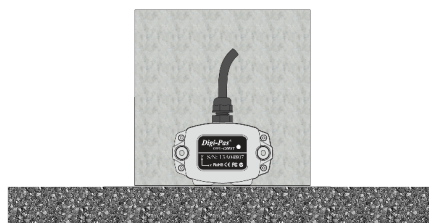

Figure 35. Compact Sensor Module Position of Calibration Step 1
3. Locate the sensor module as following Figure 35. The sensor is ready for user to perform calibration step 1
11. For **DWL4500XY** model, please perform only 4 steps calibration as shown in Figure 35, 36, 41, and 42.